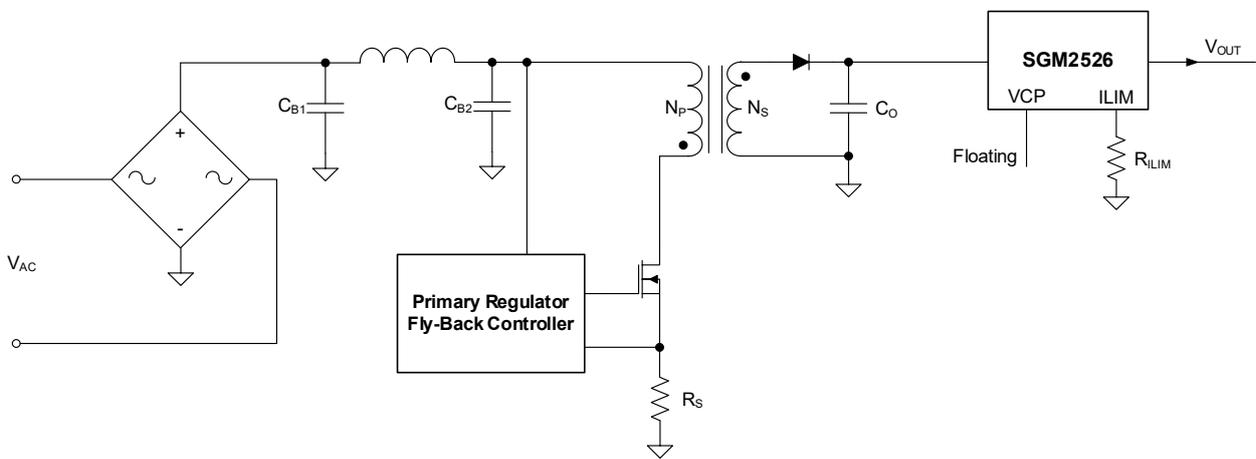
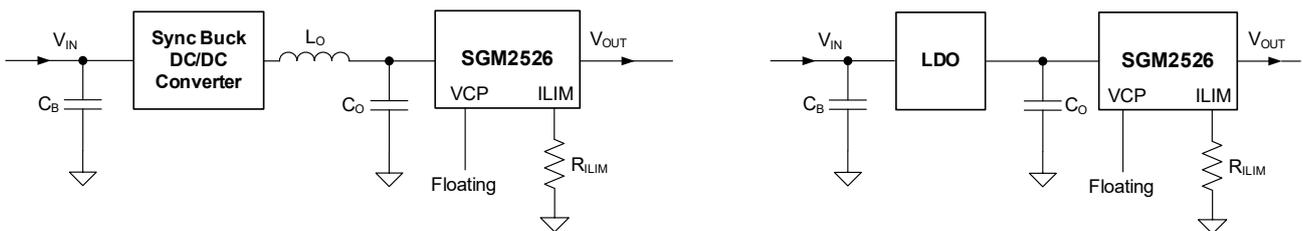
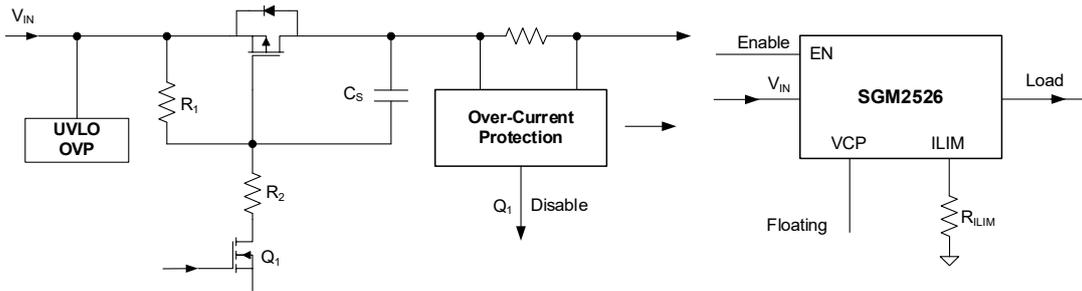

Figure 2. Current Limit and Protection for AC/DC Power Supplies
Figure 3. Precision Current Limit and Protection of Internal Rails
Figure 4. Smart Load Switch Implementation
implementation. It adds complexity to the solution and leads to a loss of sensing. The SGM2526 adopting N-MOSFET with low on-resistance is a simple and efficient solution. The typical application circuit of SGM2526 is shown in Figure 2.
The safe operation of electrical and electronic equipment in dangerous area environment has a more and more urgent requirements for intensive safety (IS). IS requires that the total energy available during equipment operation is not enough to ignite the surrounding explosive environment by means of electric sparks or heat transfer. This requires precision current limits to ensure that the set current limits are not exceeded over a wide operating temperature range and variable environmental conditions. Applications such as gas analyzers, medical devices, portal industrial equipment, etc., need to meet these importance safety standards. As a simple over-voltage and over-load protection solution, the SGM2526 is applicable to each power rail inside the system application. The typical implementation circuit of SGM2526 is shown in Figure 3.
The smart load switch is a series of MOSFETs used to switch the load (resistance or capacitance). It also provides protection in case of failure. Figure 4 shows a typical discrete implementation of load switch, which requires more components and more complex circuits
Updated Figure 1, Figure 2, Figure 3 and Figure 4 .....	1, 8, 9, 10